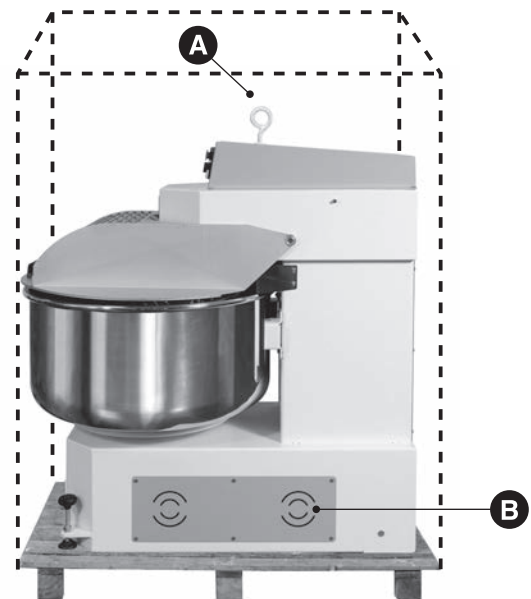
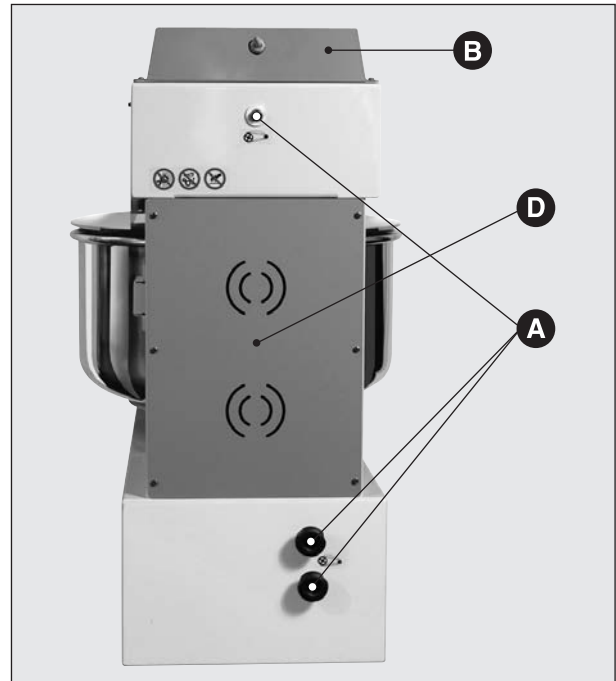

Fig. 2
Fig. 3
Lift the machine from the eyebolt (Fig. 2 A) with a wheeled hoist, and remove from the crate.
- to clean internal parts of machine, first dismantle the panels (**Fig. 3 C** and **D**); remove any grease and powder from the food products processed; then reassemble the panels.
- **Belt tension:** once yearly, or in case of irregular machine operation (r.p.m. loss), check belts drive tension. Disassemble machine panels (**Fig. 2 B** and **3 C**); be sure that the belts are taut enough and, if necessary, turn screw and knobs (**Fig. 3 A**) marked by the appropriate